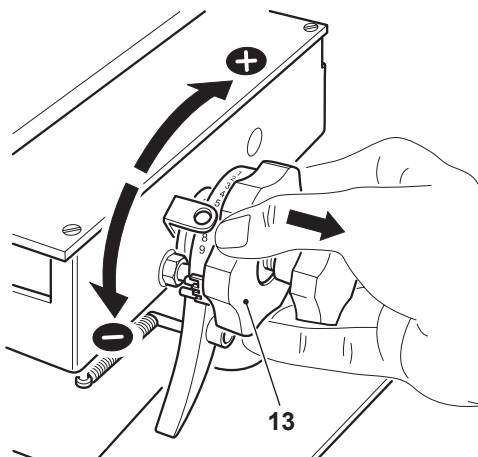

Figure 10-2
- Pull the slice thickness control dial (13) out towards operator and turn clockwise to the desired setting (Figure 10-2).